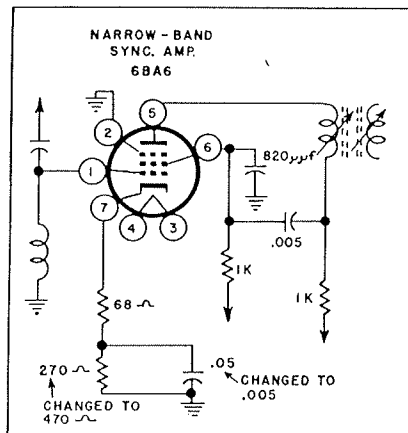

Figure M-1.
- a. Remove the bypassed 270 ohm resistor in the cathode circuit of the narrow-band sync amplifier, and replace it with a 470 ohm unit, as shown in figure M-1. The symbol number of this resistor is R359 in the RA-109A, and R315 in the RA-112A, RA-113, and RA-117A Telesets. This change has already been made in Telesets with serial numbers higher than those listed below:
d. Remove the .05 mfd bypass capacitor in the cathode circuit of the narrow-band sync amplifier and replace it with a .005 mfd capacitor, as shown in figure M-1. The symbol number of this capacitor is C312 in the RA-109A; and C287 in the RA-112A, RA-113, RA-117A and RA-120.